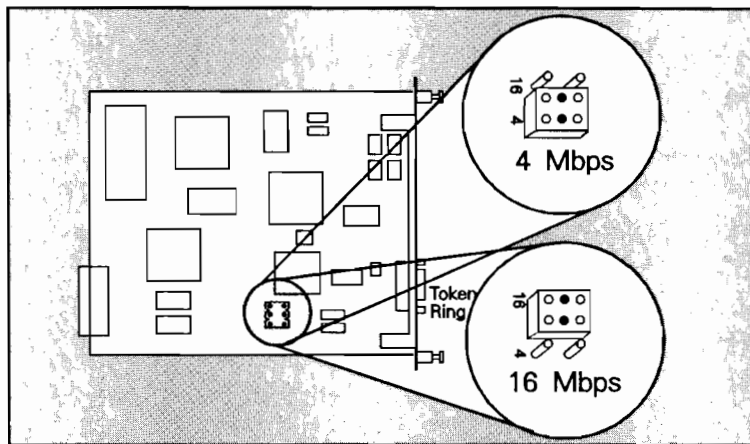

Figure 3-12. Configuring the Token Ring Adapter Card
3. Configure your Token Ring adapter card for either a 4-Mbps or 16-Mbps data rate by moving the jumper block. See Figure 3-12. This should be the same setting as the other adapter cards on your network. **The factory default setting is 4 Mbps.**